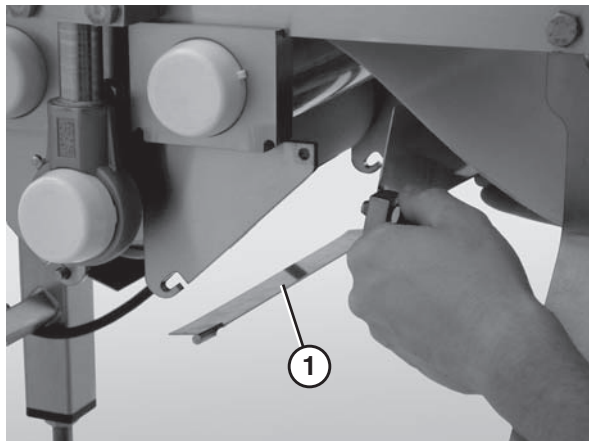

Figure 16
3. Lift up on the center drive guard (Figure 16, item 1) and remove it.
10. Reattach the center drive guards (Figure 16, item 1).